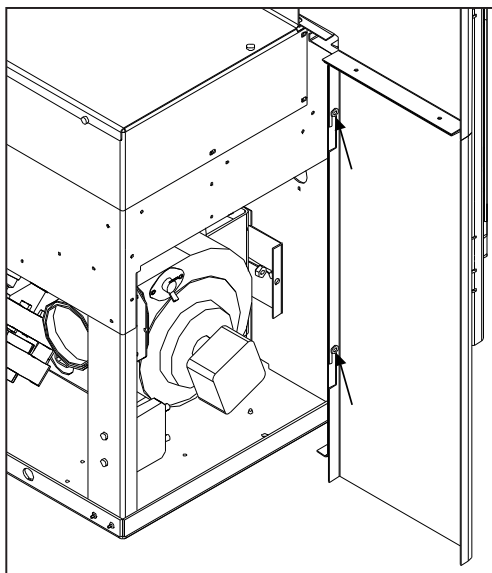

Figure 34: Installed Surround Panel.
2. Place the assembled surround panel around the stove; align the slots with the screw heads. Push surround in then down to engage the surround slots on the mounting screws (see Figure 34). Make sure the top surround panel sits flat behind the stove top.